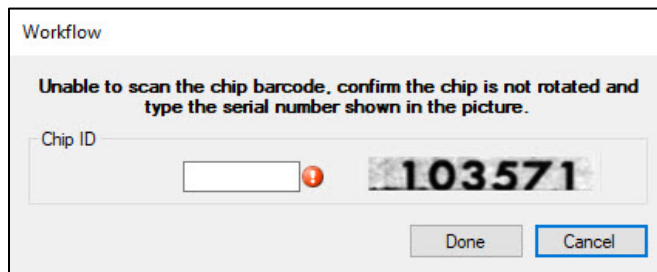

Figure 96. Enter the chip ID after autofocus and barcode scanning steps
11. When the autofocus and barcode scanning steps are complete, if there is no chip ID picture shown, as in Figure 96, that indicates the chip is likely in the incorrect orientation and needs to be rotated and resealed.